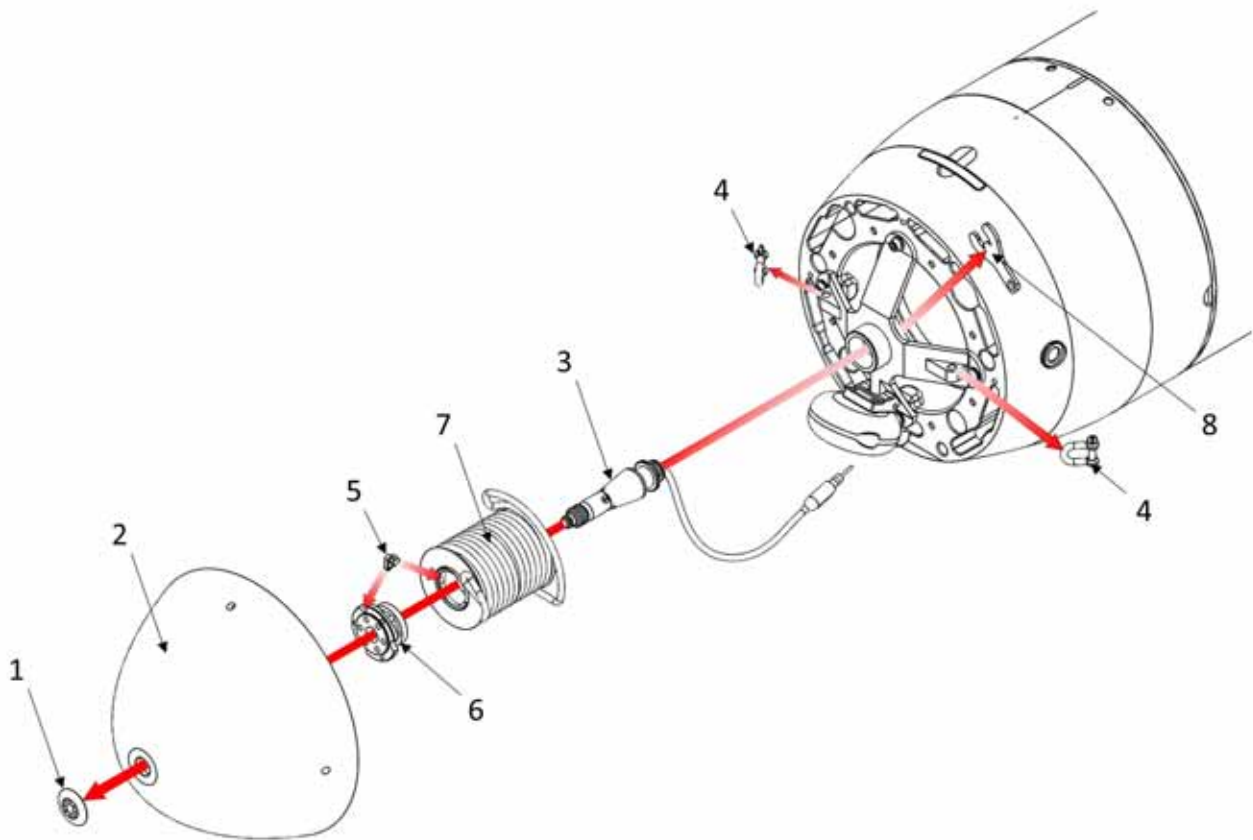

Figure 2-9 Recovery assembly.
2. Remove the sonar dome vent washer (Figure 2-9, Item 1).
3. Remove the buoyant sonar dome assembly (Figure 2-9, Item 2).
4. Remove the zip tie (Figure 2-9, Item 5).
5. Unscrew the spool nut (Figure 2-9, Item 6).
6. Remove the shackles (Figure 2-9, Item 4) from the recovery spool base.
7. Remove the recovery spool assembly with line (Figure 2-9, Item 7).
8. Remove the retention clip (Figure 2-9, Item 8).
9. Disconnect the nose release cartridge (Figure 2-9, Item 3) connector from the altimeter.
1. Feed the nose release cartridge wire (Figure 2-9, Item 3) through the center of the recovery spool base, and feed the connector back out at 4 o'clock position.
2. Install the retention clip (Figure 2-9, Item 8) onto the nose release cartridge under the recovery spool base at the 4 o'clock position. Rotate the nose release cartridge so that the center tab on the retention clip aligns with and inserts into the slot on the cartridge base.
4. Slide the recovery spool assembly with line (Figure 2-9, Item 7) over the nose release cartridge (Figure 2-9, Item 3).
5. Slide the spool assembly with a line (Figure 2-9, Item 7) over the nose release cartridge (Figure 2-9, Item 3). Tighten the spool nut (Figure 2-9, Item 6) to the nose release cartridge until it is flush with the end of the large threads. The spool should rotate easily.
6. Install the end loop of the line closest to the base through *both* shackles. (Figure 2-9, Item 4).
8. Attach a cable tie to the spool nut and the forward loop on the recovery spool. Tighten the zip tie to secure the line to the spool nut (Figure 2-9, Item 5). Hold the spool nut, and rotate the spool to take up any excess slack in the recovery line
10. Attach the buoyant sonar dome assembly (Figure 2-9, Item 2) (with flotation foam and index pin on top) to the release cartridge assembly with the sonar dome vent washer (Figure 2-9, Item 1). Use long-nose pliers to tighten.